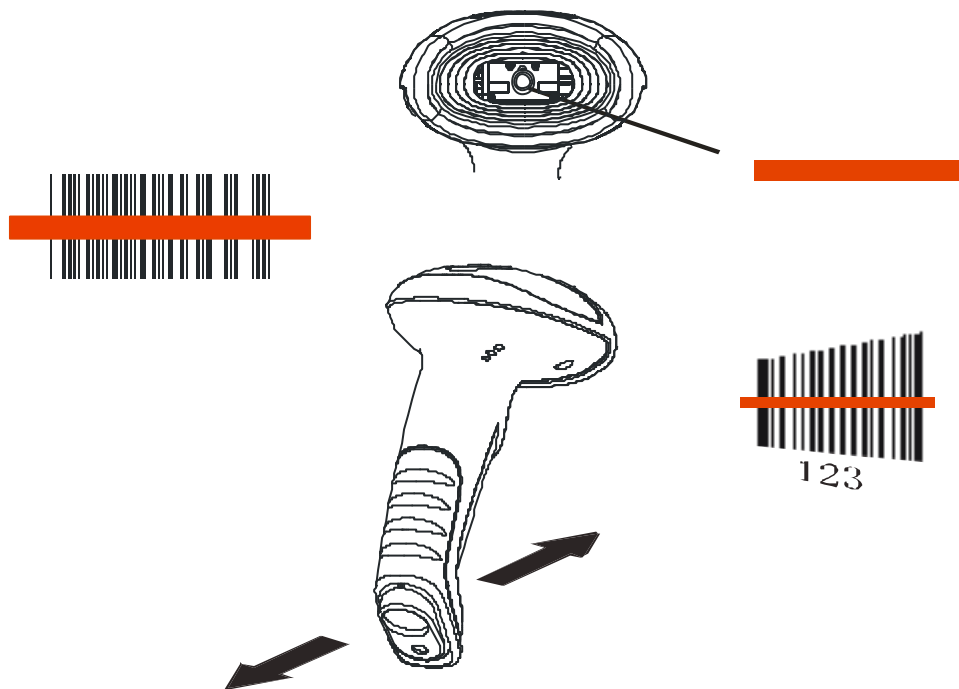

Fig. 1-9
- ✧ Aim the red beam across the center of barcode, as shown in Fig.1-9.